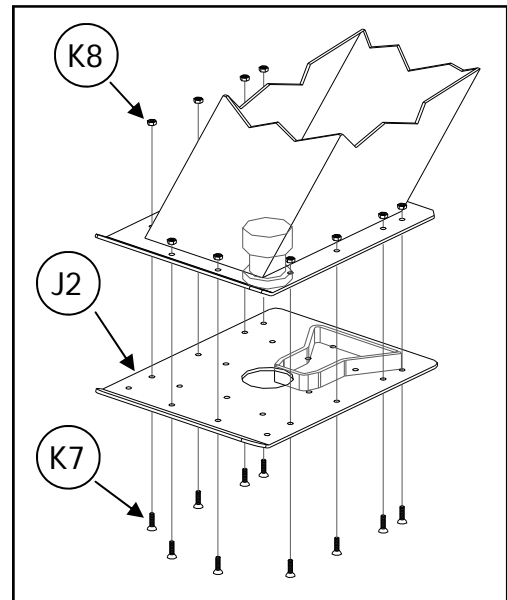

Figure 3
I. FOR KING PIN BOXES WITH A FLANGE: (Figure 3)